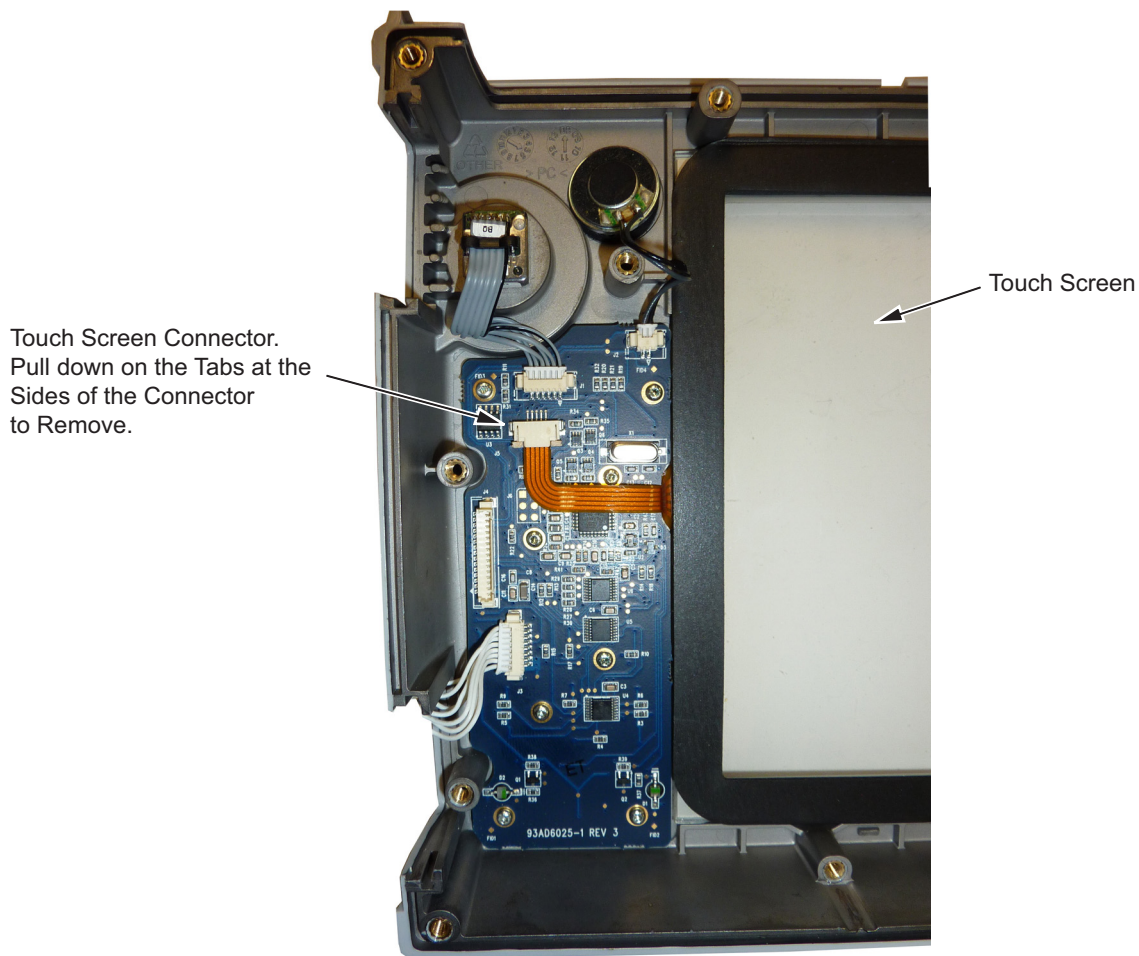

Figure 7-16. Replacing the Touch Screen
4. Remove the touch screen flex circuit cable from the keypad PCB by pulling the tabs on each side of the connector away from the connector and in the direction of the flex circuit. Refer to Figure 7-16.